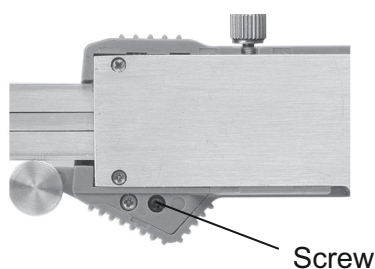

Fig. 1
- » Loosen the screw and remove the battery cover (Fig. 1).